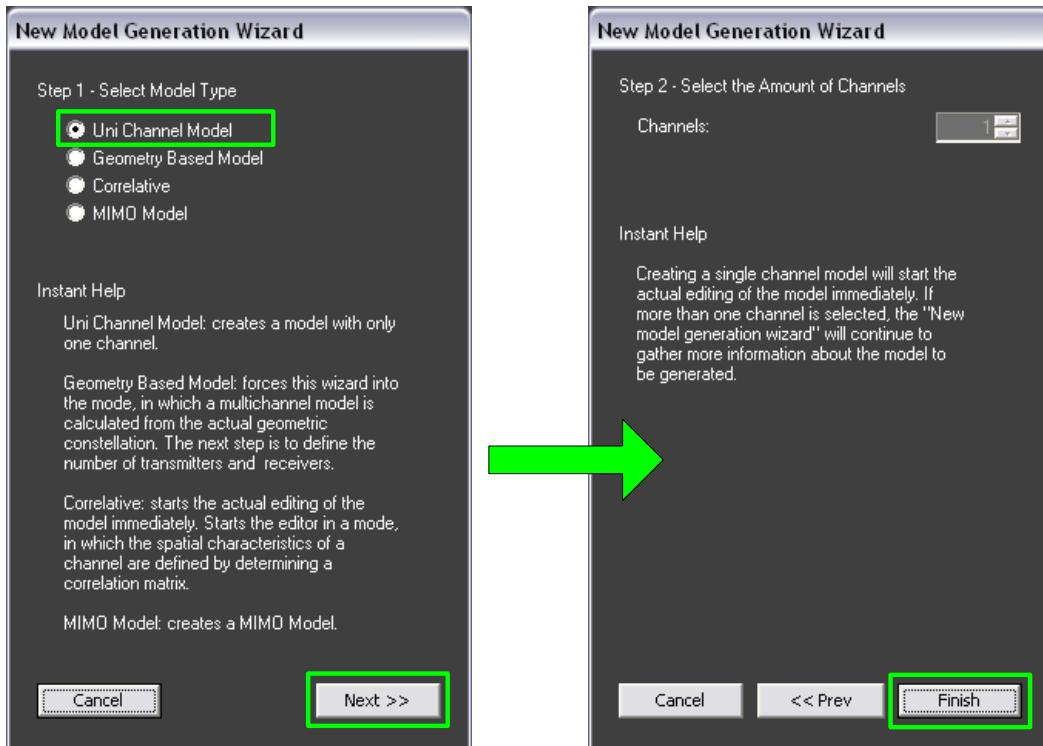

Figure 186 Uni-channel model creation
1. To start the creation of a new model, click **New** toolbar button or select **New** in the **File** menu. The **New Model Generation Wizard** is shown in Figure 186.